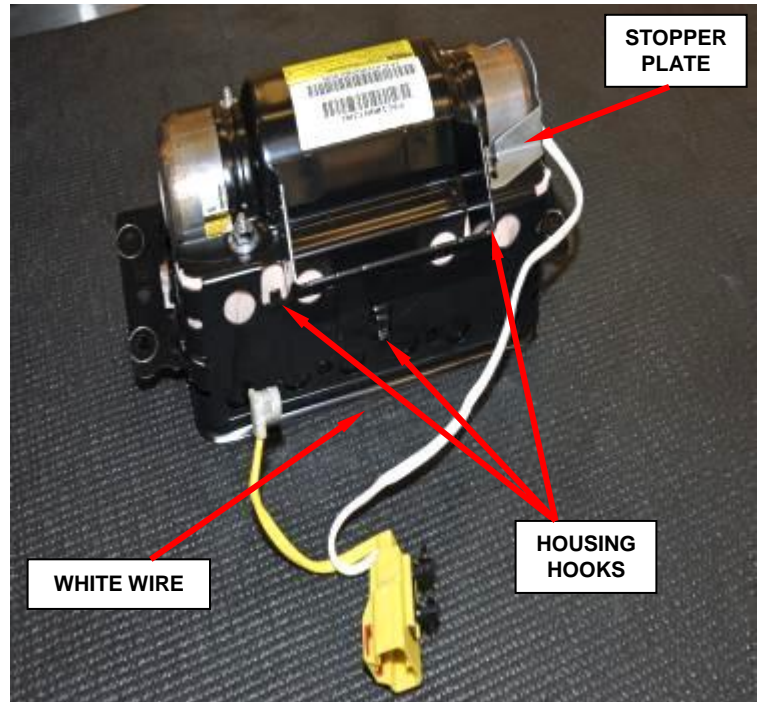

Figure 61 – White Wire Harness
- d. Release the white wire from the three housing hooks (Figure 61).
- f. Remove and save stopper plate from housing (Figures 61 and 62).